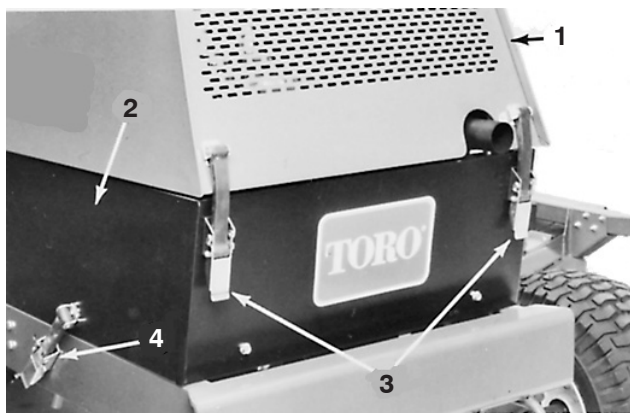

Figure 34
1. Unlatch and raise hood and prop it open. Unlatch and remove left side panel (Fig. 34). Make sure hood prop is secured in one of the mounting brackets on hood.
1. Unlatch and raise hood and prop it open (Fig. 34). Make sure hood prop is secured in one of the mounting brackets on hood. Unlatch and remove both side panels (Fig. 34).